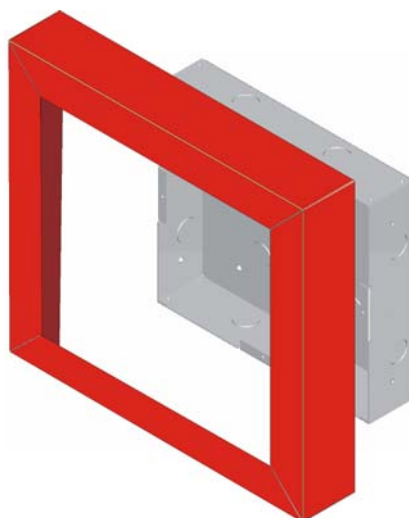

**Figure 4.25 Back Box Surface Mount Holes**
2. To properly mount the back box, insert a single screw into the key shaped mounting hole. Do not tighten all the way. See Figure 4.25.